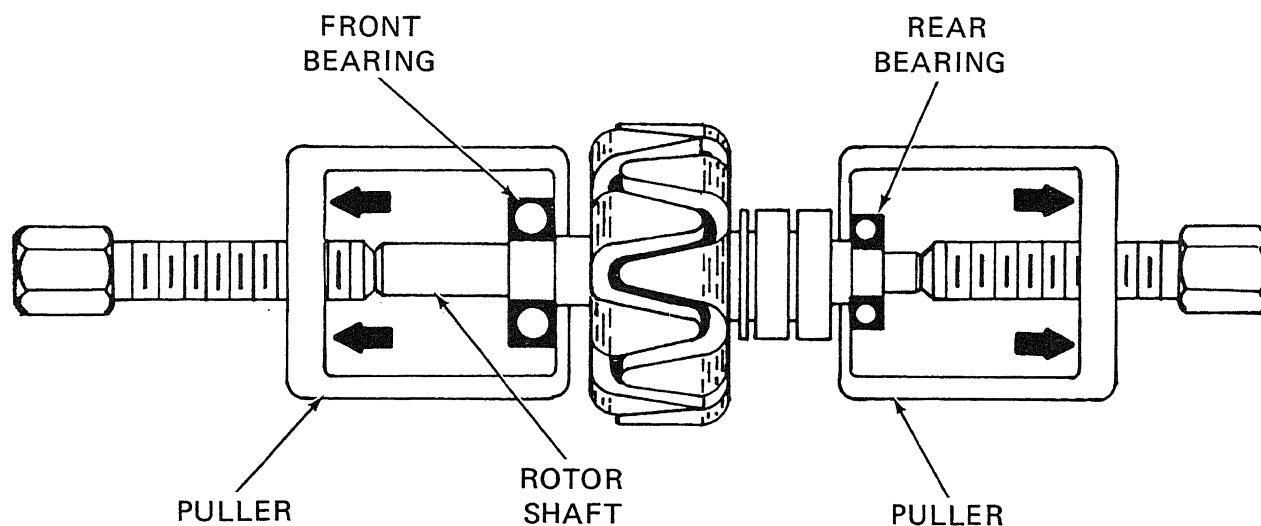

Figure 5-28.16. Bearing Removal
- (15) Use a puller to remove the front and rear bearings from the rotor shaft, Figure 5-28.16.